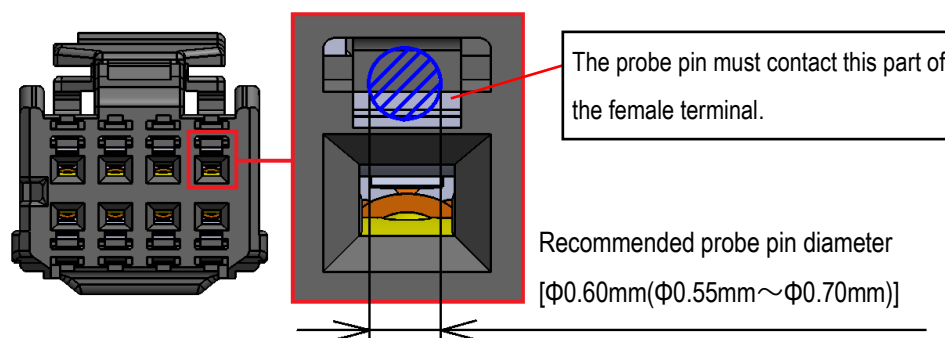

Fig.48 Conductivity test for female terminals (contacts)
- ② To test electrical conductivity of female connector, place a probe pin at prescribed point (0.5N MAX.) on outside of the female terminal. (See Fig. 48)
- ③ Do not insert a probe pin into female terminal, as this may damage the terminal spring.